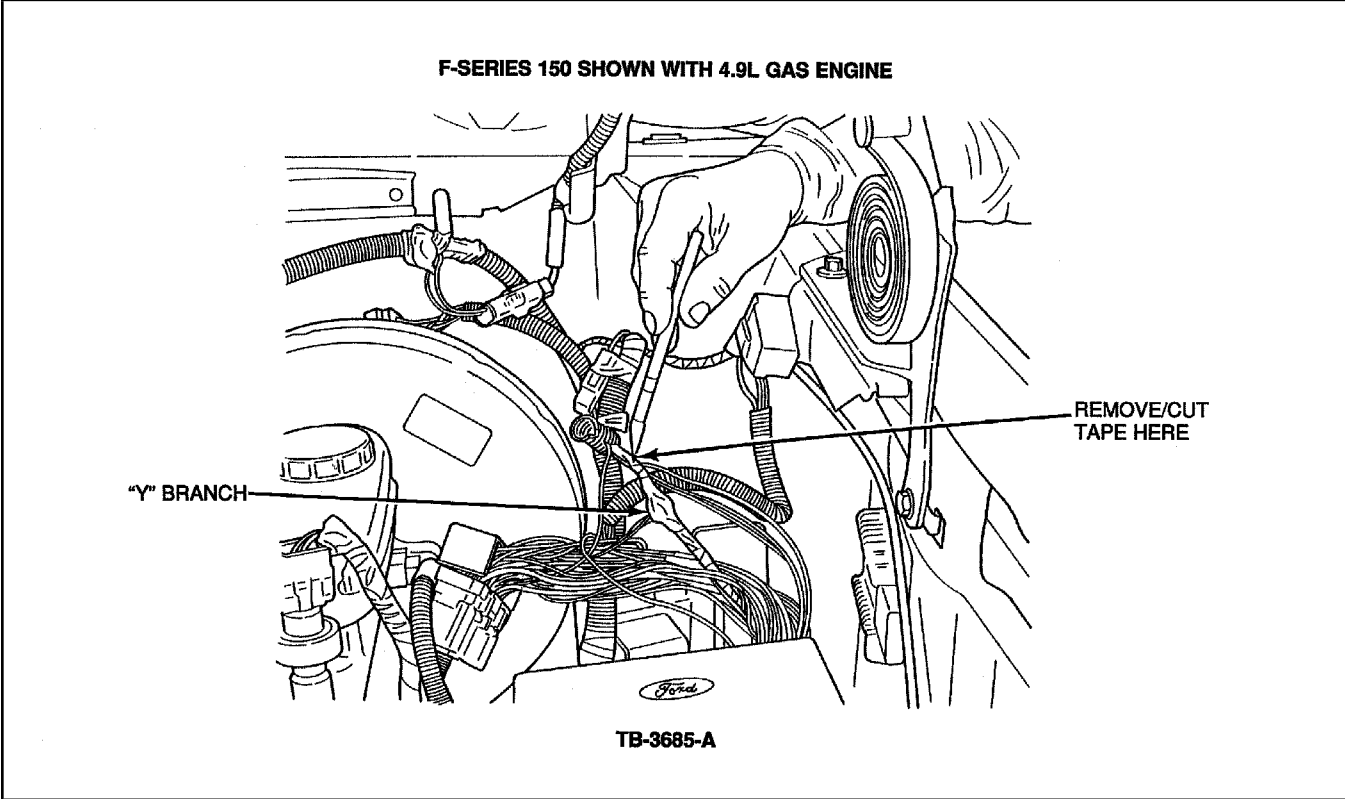

Figure 2 - Article 95-15-11
6. Remove/cut the tape of the wiring assembly. Work toward the the ICM connector (pull back convoluted tubing as needed). Refer to Figure 2.